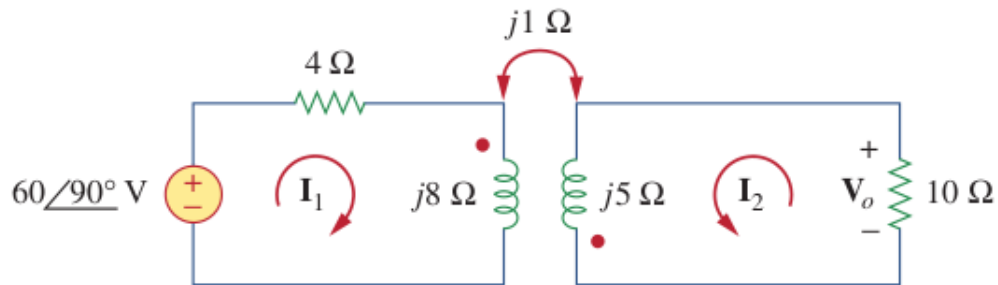

Figure 9
- **Question 14:** Solve for I_1 , I_2 and V_o in Fig.9.